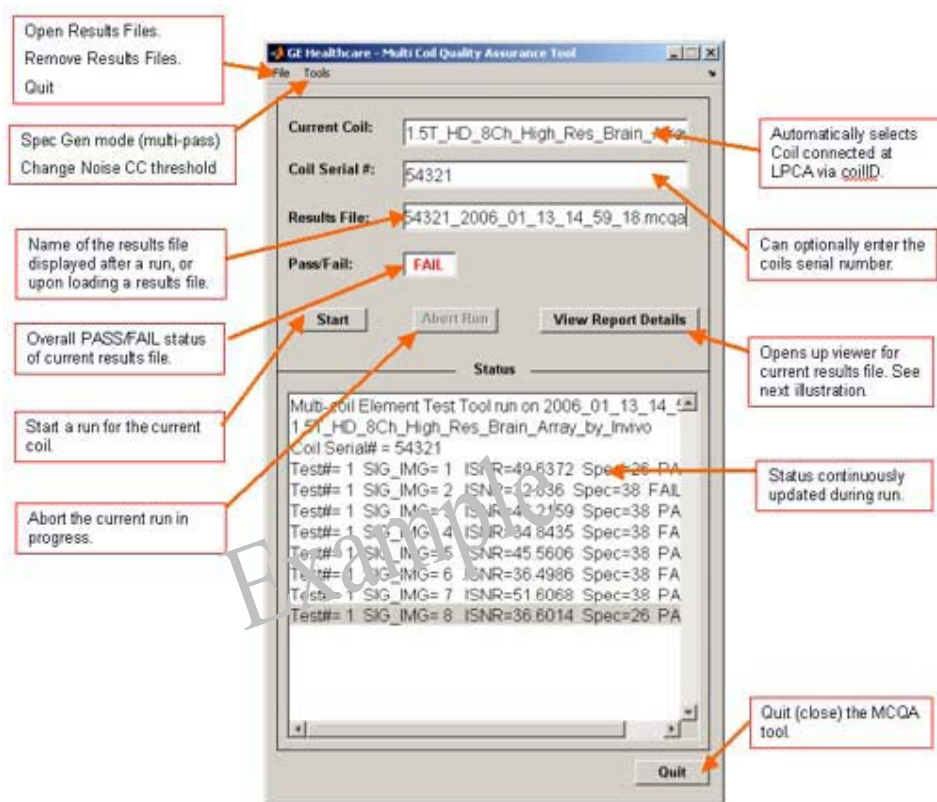

Figure 4.1.3-1
2. From the Common Service Desktop (CSD) select [Image Quality], *Multi-Coil QA Tool* and Click here to start this tool. The Coil Log Viewer will open as shown in figure 4.1.3-1.